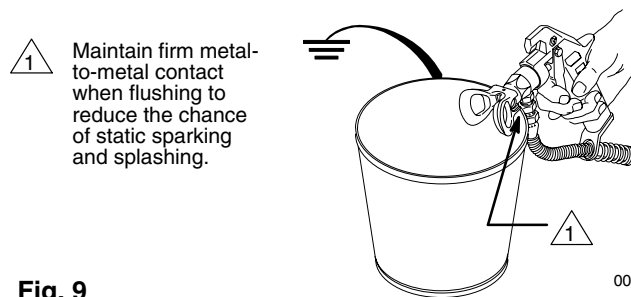

Fig. 9
6. Follow **Startup** on page 13. Keep the gun triggered until clean water or solvent comes from the nozzle. See Fig. 9. Release the trigger and engage the gun safety latch.